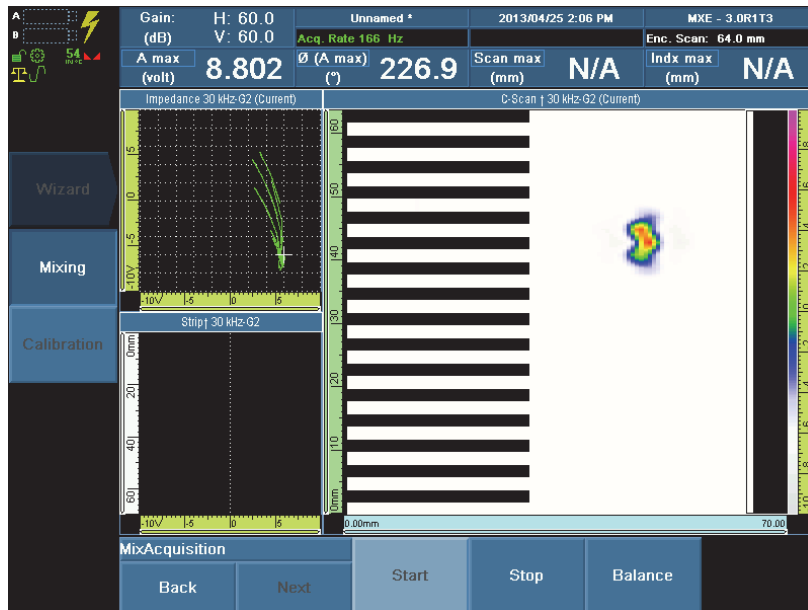

Figure 9-11 Scanning the good fastener in the Mix Acquisition step
- Select **Start**, and then scan the good fastener (see Figure 9-11 on page 153).